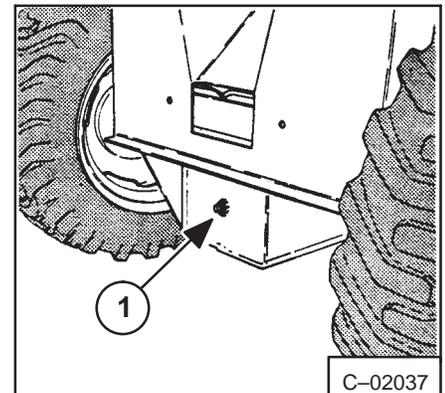

Fig. 1-39 Chaincase Plug
2. Remove the plug (Fig. 1-39, Item 1) at the front of the chaincase housing.